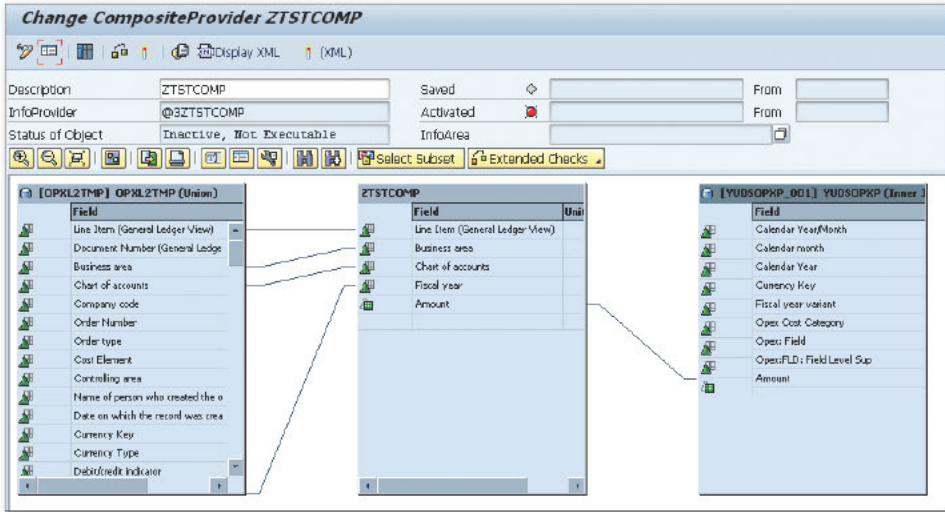

Figure 2 Selecting Fields from InfoProvider
8. Select the fields from the InfoProvider, and add to the Composite Provider as shown in Figure 2.
You can create a BAdI implementation by using the dropdown box associated with BUILD VERSION FROM option in Figure 2. The BAdI contains interface IF_RSLPO_BADI_PARTITIONING, which provides three methods that can be used for creating new partitions programmatically.
➤ *Figure 2 Creating Partitions for Fiscal Year*